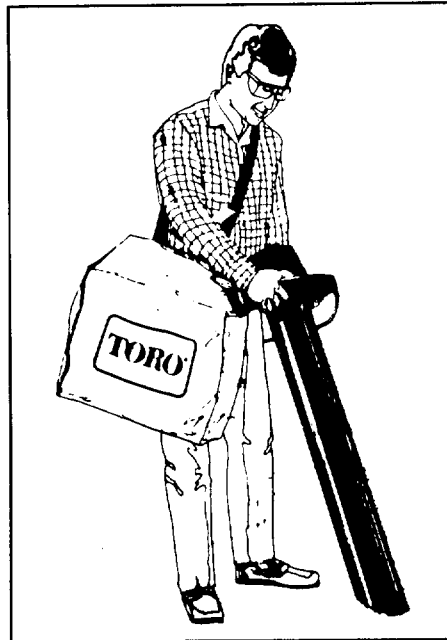

Figure 8
1. With vac tubes and bag attached, pick up unit with right hand holding handle and left hand on textured part of housing. Bag should be on right side. Place bag strap over shoulder, and adjust length to fit (Fig. 8).